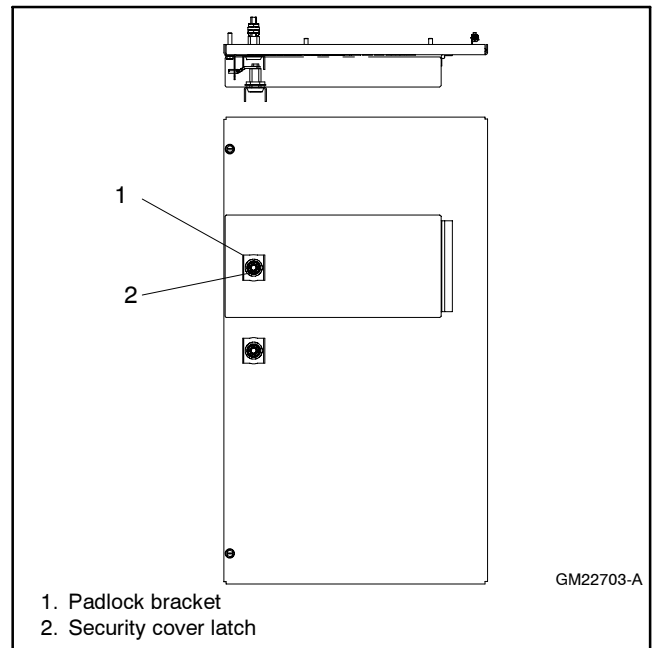

Figure 9 Attaching Compression Latch and Padlock Bracket on Security Cover
4.2 Place the padlock bracket (GM20576) and compression latch gasket on the compression latch (GM22534). Place the compression latch in the hole of the security cover. Position the padlock bracket with the padlock holes horizontal. Install and tighten the mounting nut. See Figure 9.